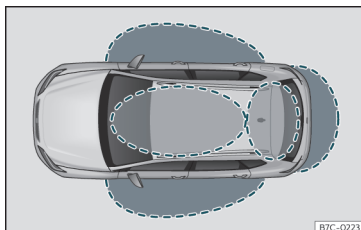
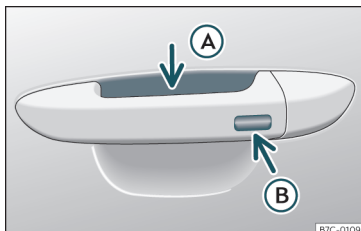

Fig. 71 Keyless Access: proximity zones.
Fig. 72 Keyless Access locking and ignition system
in the detection area where you are attempting to access the vehicle >>> Fig. 71 and to touch one of the sensor surfaces on the door handles >>> Fig. 72 or operate the *softtouch*/handle on the rear lid >>> page 98 >>> .
If a valid key is in the proximity of the car, >>> Fig. 71 the Keyless Access locking and starting system gives the key entry as soon as one of the sensor surfaces on the door handles is touched or the *softtouch*/handle on the rear lid is operated. The following features are then available without having to use the vehicle key actively:
- Grip one of the front door handles. When you do this, you touch the sensor surface >>> Fig. 72 (A) (arrow) of the handle and the vehicle unlocks.
- Touch (*once*) the locking sensor surface >>> Fig. 72 (B) (arrow) on one of the front door handles. The door that is used must be closed.
- Touch (*once*) the sensor surface >>> Fig. 72 (B) (arrow) on one of the front door handles. The vehicle locks with the "Safe" security system >>> page 93. The door that is used must be closed.
- Touch (*twice*) the sensor surface >>> Fig. 72 (B) (arrow) of one of the front door handles to lock the vehicle without activating the "Safelock" security system >>> page 93.
When the vehicle is locked, the rear lid automatically unlocks on opening if there is a valid vehicle key in the proximity >>> Fig. 71.
- Push the central locking button  on the remote control and touch the locking sensor surface of the driver door handle >>> **Fig. 72 B** within the following 5 seconds. Do not grasp the door handle; otherwise the vehicle will not unlock. Deactivation is also possible if the vehicle is locked through the driver's door lock.
To close all the electric windows and the sunroof using the **comfort function**, keep a finger for a few seconds on the locking sensor surface >>> **Fig. 72 B** (arrow) of the door handle until the windows and roof have closed.
The sensor surfaces on the door handles could engage if hit with a water jet or high pressure steam if there is a valid vehicle key in the proximity. If at least one of the electric windows is open and the sensor surface >>> **Fig. 72 B** (arrow) on one of the handles is activated continuously, all windows will close.
- **OR:** touch the sensor surface on the outside of the door handle *twice* >>> Fig. 72